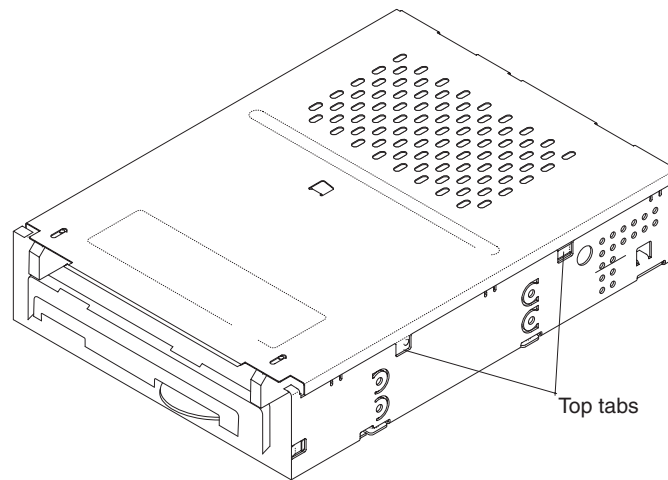

Figure 27. Removing the top cover from the drive
- a. Use a small screwdriver to press the top tabs (see Figure 27) on each side of the drive.